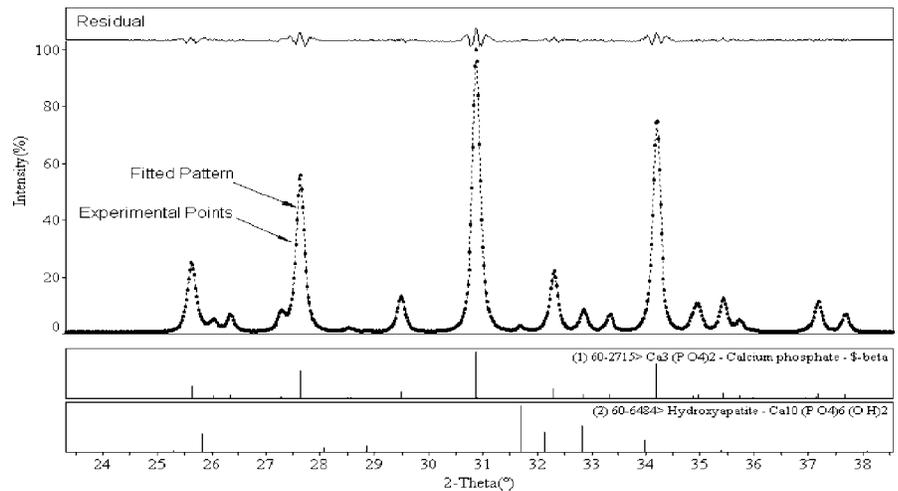

Figure 1 Rietveld refinement of β -TCP with 1.7% HA
Figure 1 shows a portion of the experimental diffraction pattern of a mixture of β -Tricalcium Phosphate (β -TCP) mixed with trace amounts of Hydroxyapatite (HA). Individual data points are shown as discrete dots and the computed profile is shown as the continuous line. At the top of the Figure is shown the *residual error* between the computed and experimental curves. Finally, at the bottom of the Figure are shown the stick patterns for the phases identified.